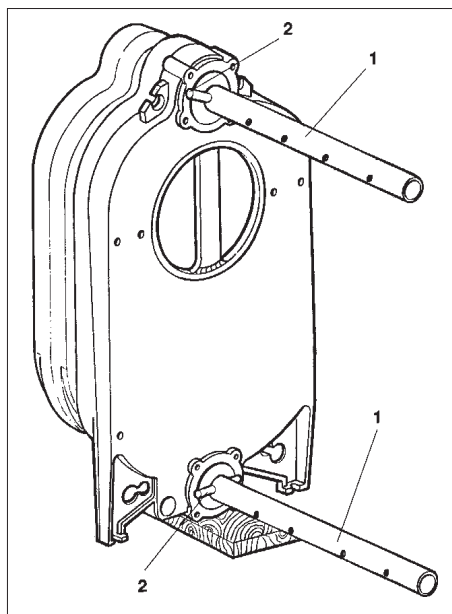

Fig. 11
4.07 (Figs 11 - 12 - 13) Insert rod 1 between the two elements, mount nut 3 on the threaded end, place stop pin 2 on the hole of the rod near the pair of elements then clamp the unit together using a N° 4 wrench until the two elements have been perfectly joined together.